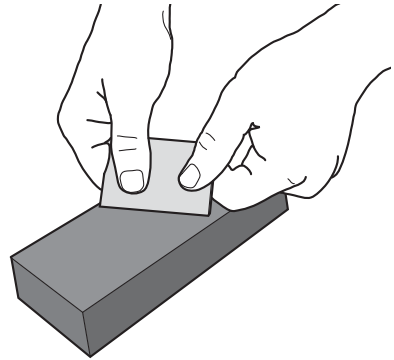
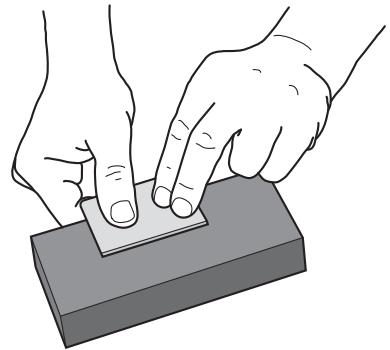

Figure 2: Honing.
Figure 3: Lapping.
Step 2 — Honing: Start with an 800x or 1000x stone to remove the marks from filing. Either an oil stone or water stone is suitable. Hold the blade as shown in **Figure 2** with the bevel flat against the stone. Stroke it back and forth, covering the whole stone. Check the bevel often to evaluate your progress. Continue until all file marks are gone. As shown in **Figure 3**, lap the face of the blade near the cutting edge to achieve the same finish as on the bevel. A sharp edge can only be achieved by creating two intersecting surfaces honed to the same degree. (If the scraper is to be used for general smoothing and not for fine finishing, it may now be burnished.) Using the same technique, transfer to a 4000x water stone or hard Arkansas oil stone to finish honing. A bench-top belt sander with 320x (40 μ) followed by 1200x (9 μ) abrasive belt will provide the same results a bit faster.